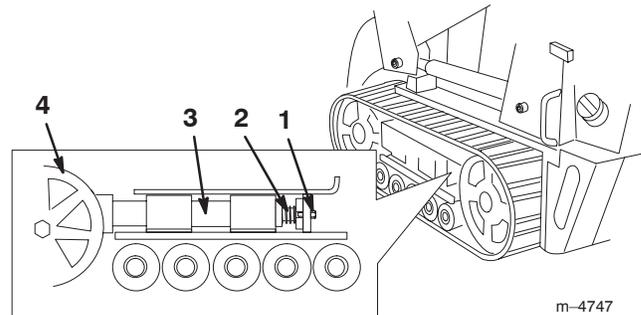

Figure 34
- Remove the locking bolt and nut (Fig. 34).
- Align the closest notch in the tension screw to the locking bolt hole and secure the screw with the locking bolt and nut (Fig. 34).
- Using a 1/2 inch drive socket, release the drive tension by turning the tensioning screw clockwise (Fig. 34 and 35).
- Using a 1/2 inch drive socket, release the drive tension by turning the tensioning screw clockwise (Fig. 34 and 36).